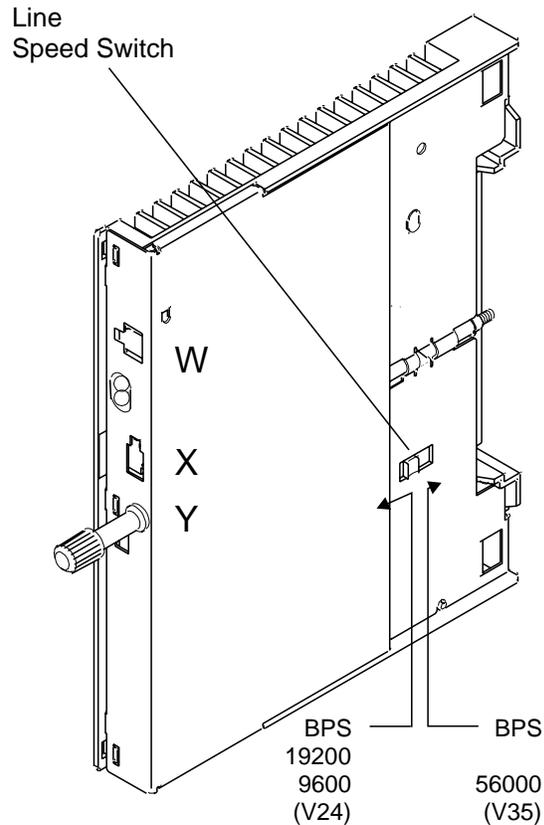

Figure 4-55. LIC 6
1. If you are working with a LIC type 6 (refer to Figure 4-55), note the position of the line speed switch, then set the line speed switch of the new LIC accordingly.